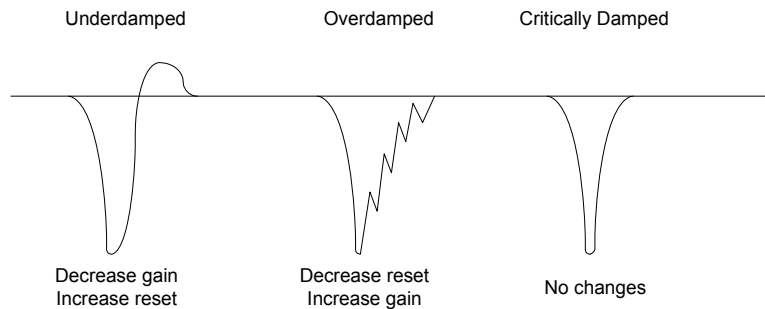

Figure 4-5. Recommended Control Setting Changes
9. Load and unload the engine in varying amounts. Observe the engine speed response on the chart recorder. Based on the shape of the response to changing load, change the reset and gain settings in one of three combinations as shown in Figure 4-5.